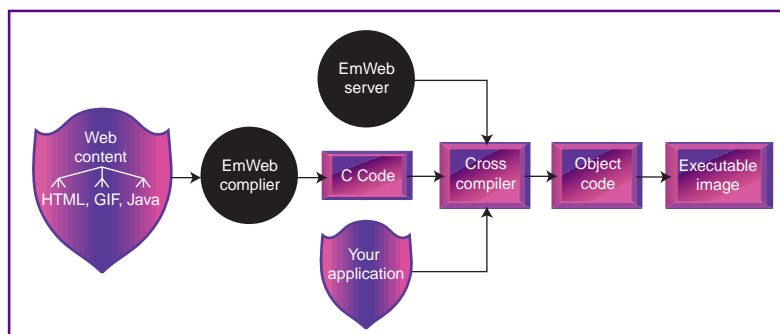

Figure 1—As you can C, EmWeb crunches everything into a tidy and compact embedded image.
Similar to the CEP, the distance root mean square (DRMS) describes 63% of all the fixes, 2 DRMS describes 97% of the fixes, and 3 DRMS describes 100% of the fixes. Figure 1 illustrates this pattern.
**Figure 1—Here's a graphical representation of CEP and the various degrees of RMS distances. The CEP (50%) has half of the fixes, DRMS (63%), 2DRMS (97%), and 3DRMS (100%).**
The compiler also generates a binary image that may be directly loaded into an embedded platform's memory area. The EmWeb concept is depicted in Figure 1.